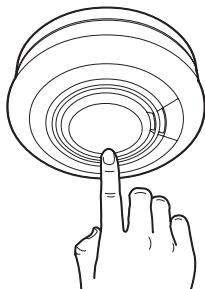

Fig. 11
7. Press the test button on each alarm to make sure that the device is working (Figure 11).
- Hold the test button down until the alarm sounds and the red LED flashes (see Fig. 11 on page 21). To protect your hearing, the alarm slowly gets louder. The alarm will stop sounding shortly after you release the test button.